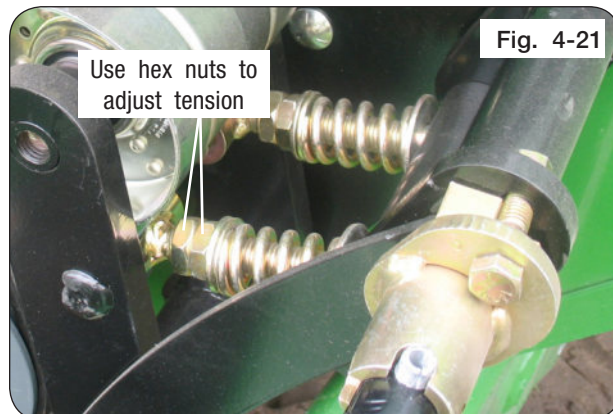

Fig. 4-21
5. Belt tension is adjusted with hex nuts below the spring. All belt tension **MUST** be released from linkage. Loosen outer hex nut and adjust inner nut to establish a $3 \frac{1}{16}$ " pre-load dimension between the heavy washers. Tighten the outer hex nut against inner nut to lock position. (Fig. 4-21)